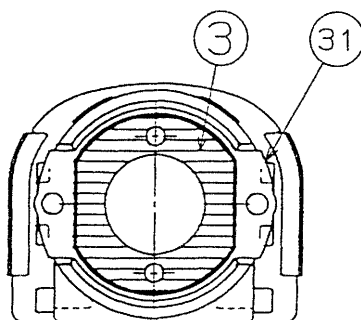

Fig. 21
* Be careful not to damage Washer (F) [3]. (Fig. 21)